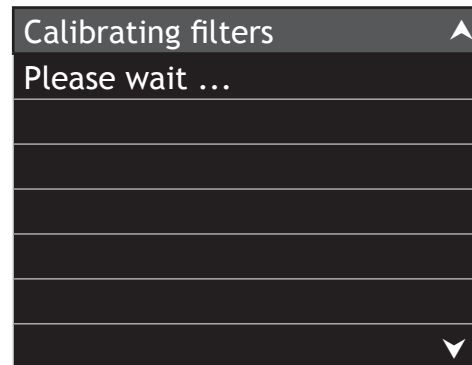
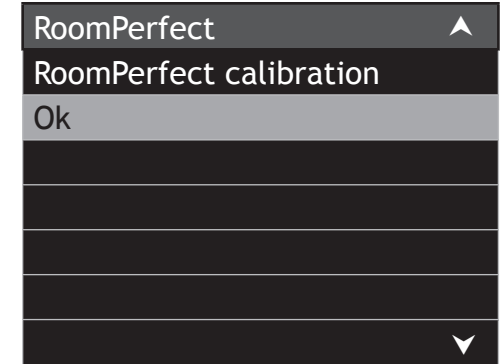

Figure 43
Figure 44
12. It will take several minutes to calibrate the filters for each of the Loudspeakers in the system. Refer to figure 43. When the filters have been set, the On-Screen will indicate "RoomPerfect calibration". Refer to figure 44. Press the SELECT Push-button to exit RoomPerfect. Press the SETUP Push-button to return to the previous Menu or